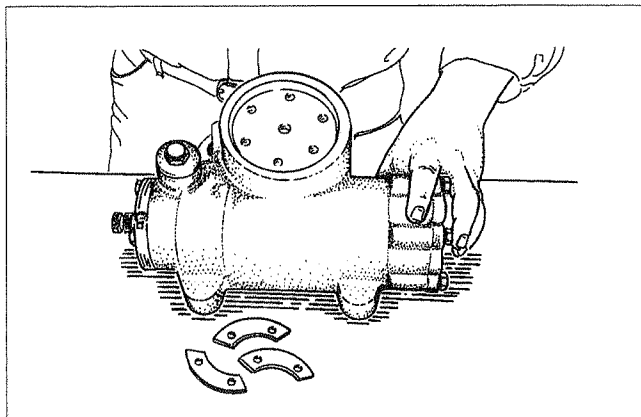

Figure 28
5. Remove the 3 retaining clips from the sector shaft cover as shown (Figure 28).